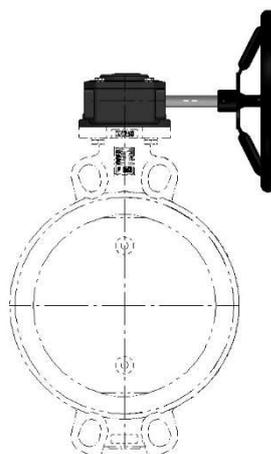

Figure 2.
10. Mount the valve perpendicular to the valve (see figure 2.)